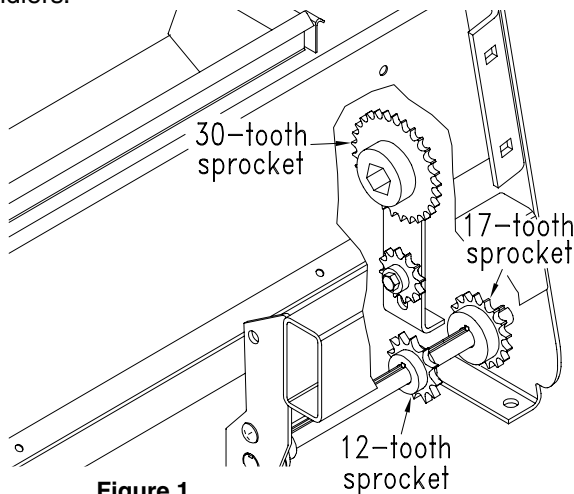

Figure 1
1. Remove chains from the three sprockets shown in Figure 1.